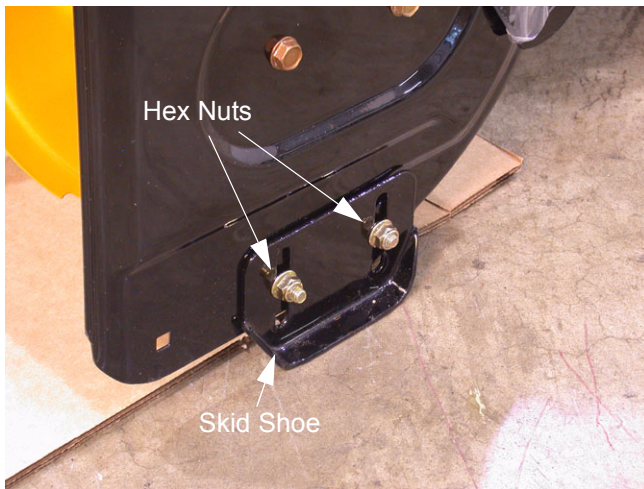

Figure 6
- 3.1. Loosen the four hex nuts (two on each side) and carriage bolts attaching the skid shoes to the auger housing. See Figure 6.